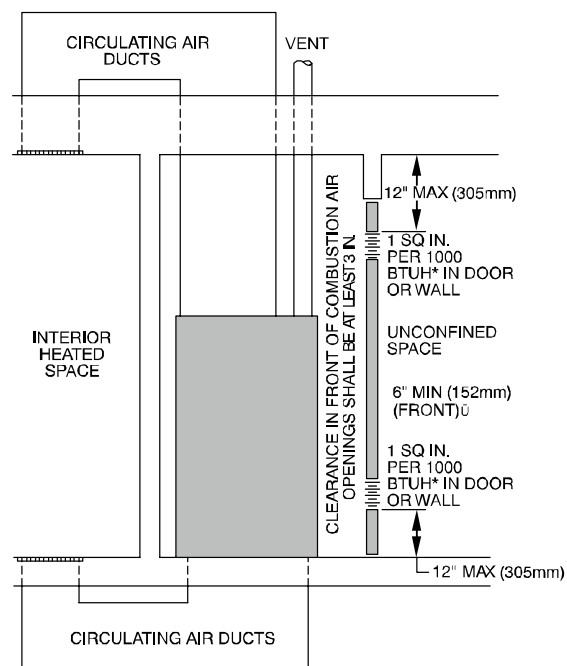

Fig. 7 - Air for Combustion, Ventilation, and Dilution from Indoors
- b. Combining spaces on same floor level. Each opening shall have free area of at least 1 in.²/1,000 Btuh (2,000 mm²/kW) of the total input rating of all gas appliances in the space, but not less than 100 in.² (0.06 m²). One opening shall commence within 12 in. (300 mm) of the ceiling and the second opening shall commence within 12 in. (300 mm) of the floor. The minimum dimension of air openings shall be at least 3 in. (80 mm). See Fig. 7.